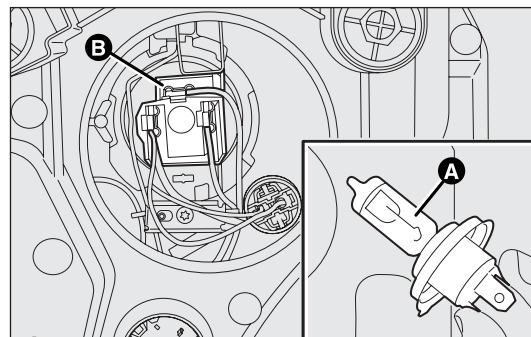

fig. 139
- ☐ disconnect the central electric connector B-fig. 139 and release the bulb holder catch;